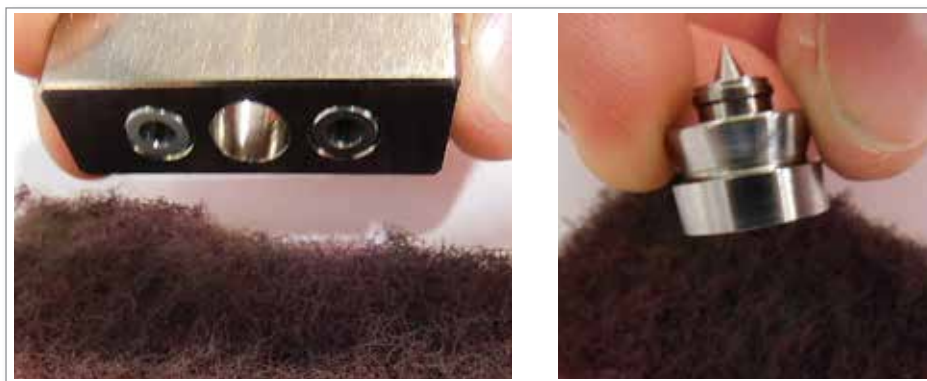

Figure 5-108 Clean the melt block and gate seal
6. Gently clean the sealing interfaces of the melt block and the gate with an abrasive cloth. See Figure 5-108.